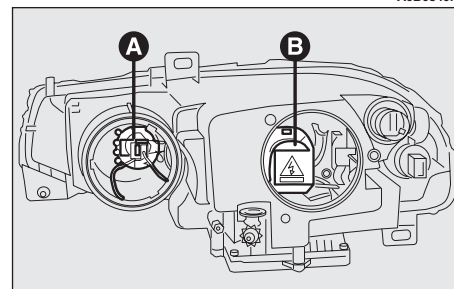
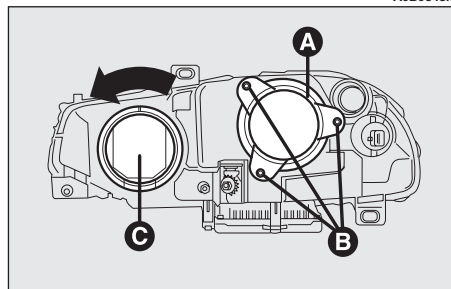
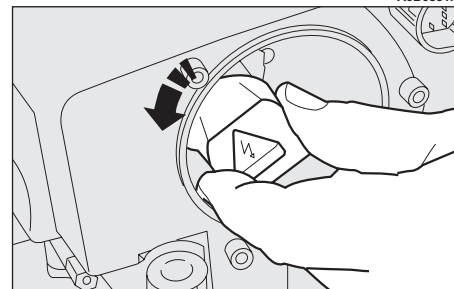

fig. 24
fig. 23
fig. 25
— Rotate the connector (B-fig. 24) of the Xenon lamp by a quarter of a turn counter-clockwise, as indicated in fig. 25, and remove it.
— Unscrew the three locking screw (B-fig. 23) and remove the protective (A) cover.
- Refit the protective cover correctly (**A-fig. 23**).
- Turn the protective cover counter-clockwise (**C-fig. 23**) in order to reach the high-beam headlight bulb (**A-fig. 24**).
- Refit the protective cover correctly (**C-fig. 23**).
- Turn the protective cover (**C-fig. 23**) counter-clockwise in order to reach the side-light bulb.